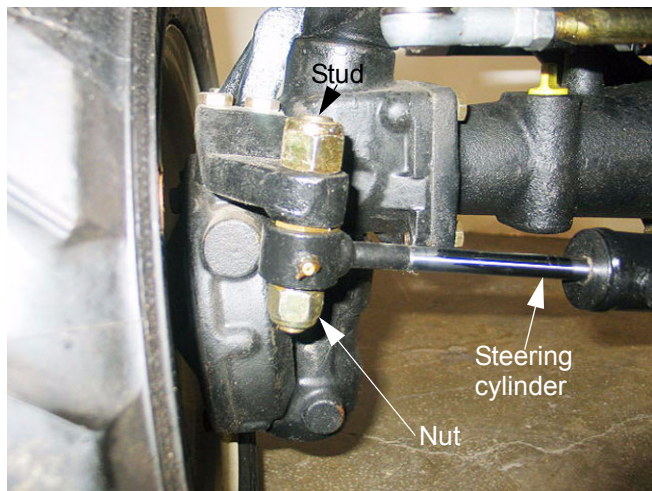

Figure 3.4
- 3.4. Remove the nut that secures the ram of the steering cylinder to the steering cylinder mounting stud using a 24 mm wrench. See Figure 3.4.